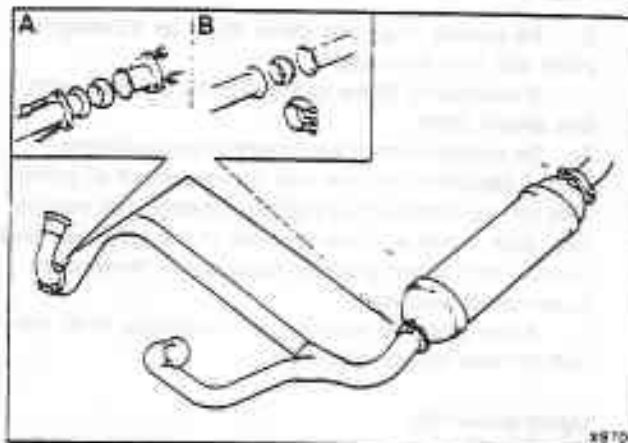

Fig. Q4-3 Modified exhaust clamps
20. Locate the downtake pipe to exhaust manifold joint. Remove the nut(s) from the joint clamp. Collect the washer(s) and free the joint. Withdraw the bolt(s) and the clamp (see fig. Q4-3).